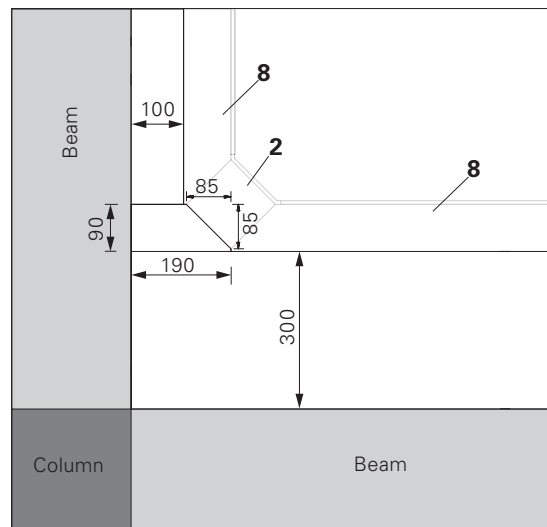
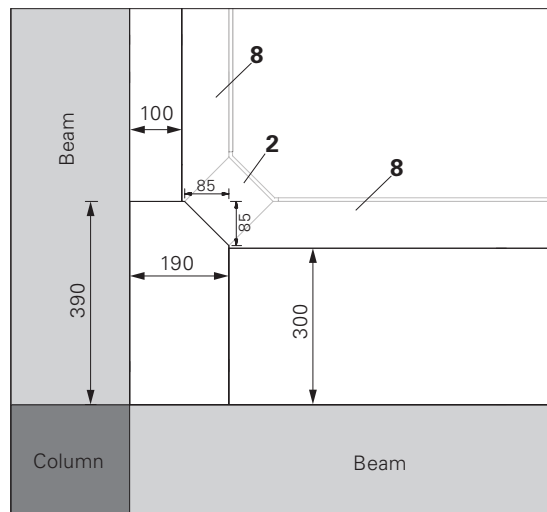

Fig. A7.08
Fig. A7.09
1. Cut infill plywood of suitable sizes as per plywood cutting option 1 or 2. (Fig. A7.08 + Fig. A7.09)
4. Erect the prop (3) attached with drophead (2) and timber block (23) near to the beam corner (distance varies according to the infill area. for e.g. 300 mm). (Fig. A7.08 + Fig. A7.09) (alternatively timber block (23) can be installed from top)
6. Now, hook the filler beam ADF (8) on the flyplate pin and swing it using shuttering aid.